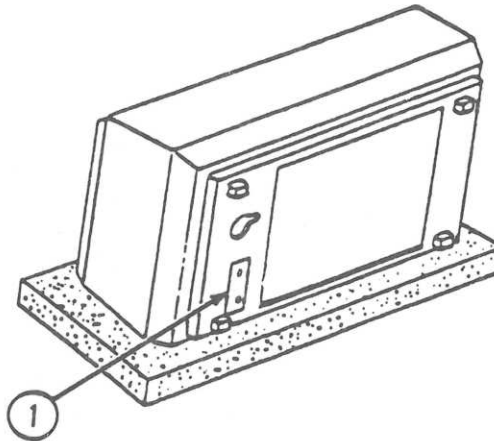

FIGURE 34
1. Make sure the threaded plate under the bottom of the printer is in position. (See Figure 34, #1.)